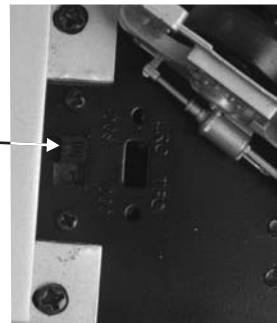

Figure 7: Changing from DCS to DCC Mode
****NOTE: You'll need to have the DCC/DCS switch set correctly if your using one of those two modes. It is depicted below in Figure 7, located underneath one of the Trucks**